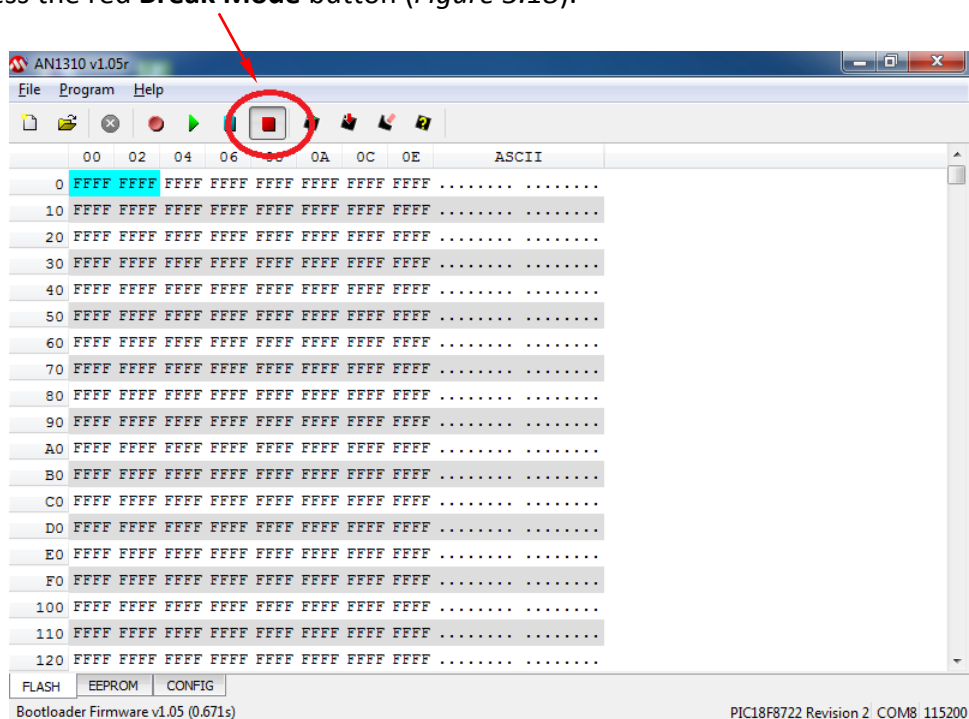

Figure 3.18
- Press the red **Break Mode** button (Figure 3.18).